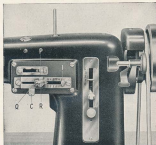

Fig. 27
be used and must be assembled under the regulating button of the zig zag regulating index, as shown in fig. 27.
hole go into the pivot of the needle plate (Fig. 27) and start sewing turning the stuff slightly in the direction of the hands of the watch.
- 1) a special plate C to be placed under the drive button of the zig zag regulator index (see Fig. 27);
- 5) a conical spring to replace the spring placed on the upper tension (Fig. 27 b).